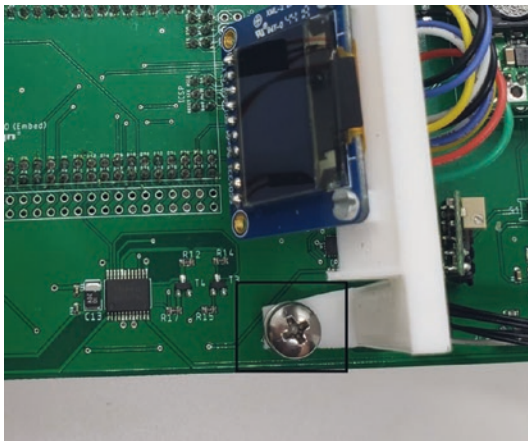

Figure 8-62. Attach the LCD mount to the chassis
17. Attach the LCD mount to the NatBot by using an M5 screw. See Figure 8-62.